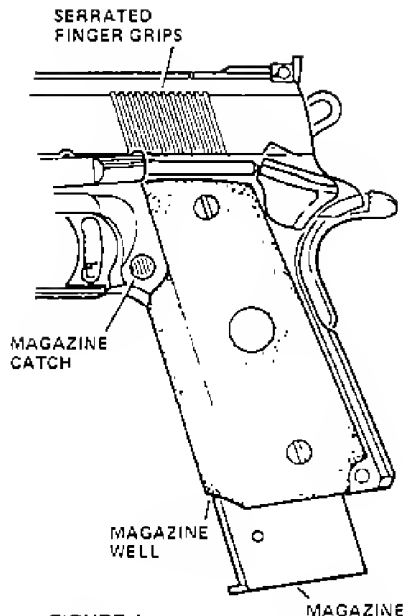

FIGURE 4—
2. Remove magazine from pistol. Place your hand under magazine to prevent it from falling. Press magazine catch (located on left of pistol behind trigger guard) to drop the magazine out of the magazine well. (See Figure 4)